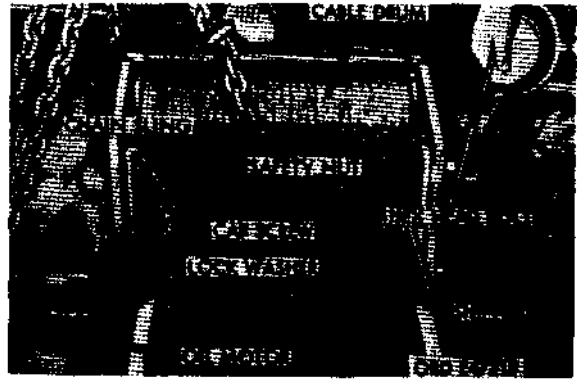

Figure 430. Removing boom hoist hydraulic oil motor and cable drum
- (1) Remove hoist cable from drum (c below).
- (2) Attach a chain sling (fig. 430) to oil motor and cable drum assembly, attach overhead hoisting equipment to sling, and just support weight of assembly with hoist.
- (4) Remove three cap screws (fig. 430) and lockwashers securing right end of cable drums to shipper.
- (1) Using overhead hoisting equipment, lift boom hoist hydraulic oil motor and cable drum (fig. 430) into position at rear of shipper.
- (2) Aline mounting holes in left end of cable drum with holes in shipper (fig. 430), and insert three hex-head bolts through holes. Install three safety nuts on bolts and tighten.
- (3) Install three cap screws (fig. 430) with lockwashers in holes in shipper and right end of cable drum, and tighten screws.
- (4) Remove overhead hoisting equipment end chain sling from oil motor and cable drum.